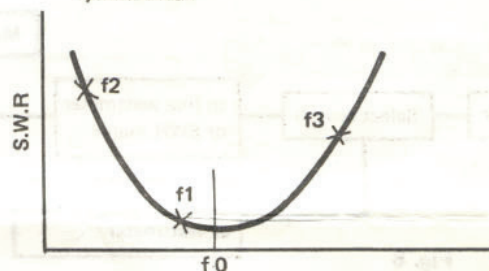

Fig. 6
- 5) Plot the values measured at these 3 frequencies on a graph, as shown in Fig. 6, to obtain the " f_0 ".
- 7) Set the transmit frequency to the lowest and highest frequencies of the band and repeat the measurement following the procedures in items 2) through 6).
- 8) Plot the values measured at these 3 frequencies on a graph, as shown in Fig. 6, to obtain "fo"